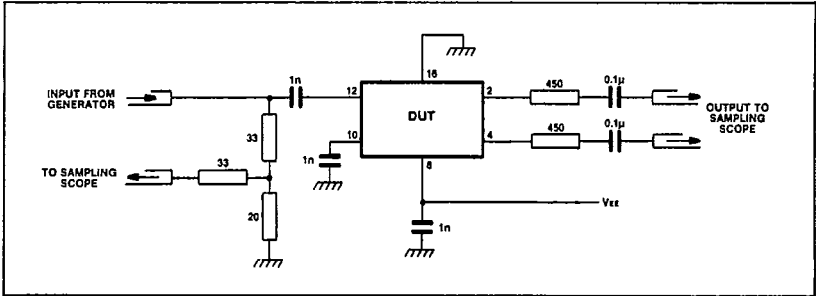

Fig.6 Test circuit
3. The test configuration for dynamic testing is shown in Fig.6.